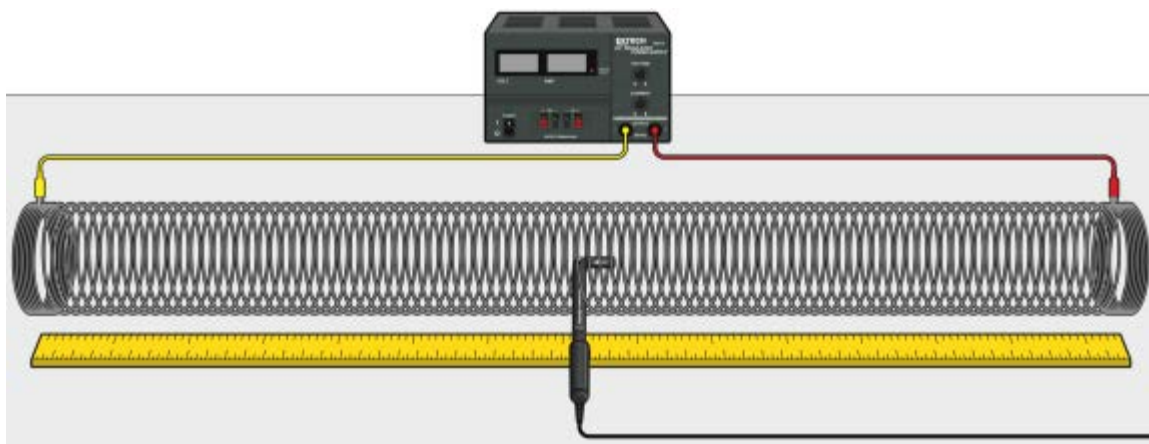

Figure 1
2. Set up the circuit and equipment as shown in Figure 1.